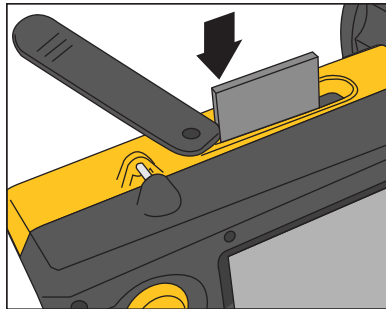

Figure 1-4. Inserting a Memory Card
1. Pull cover up and rotate as shown in Figure 1-4.